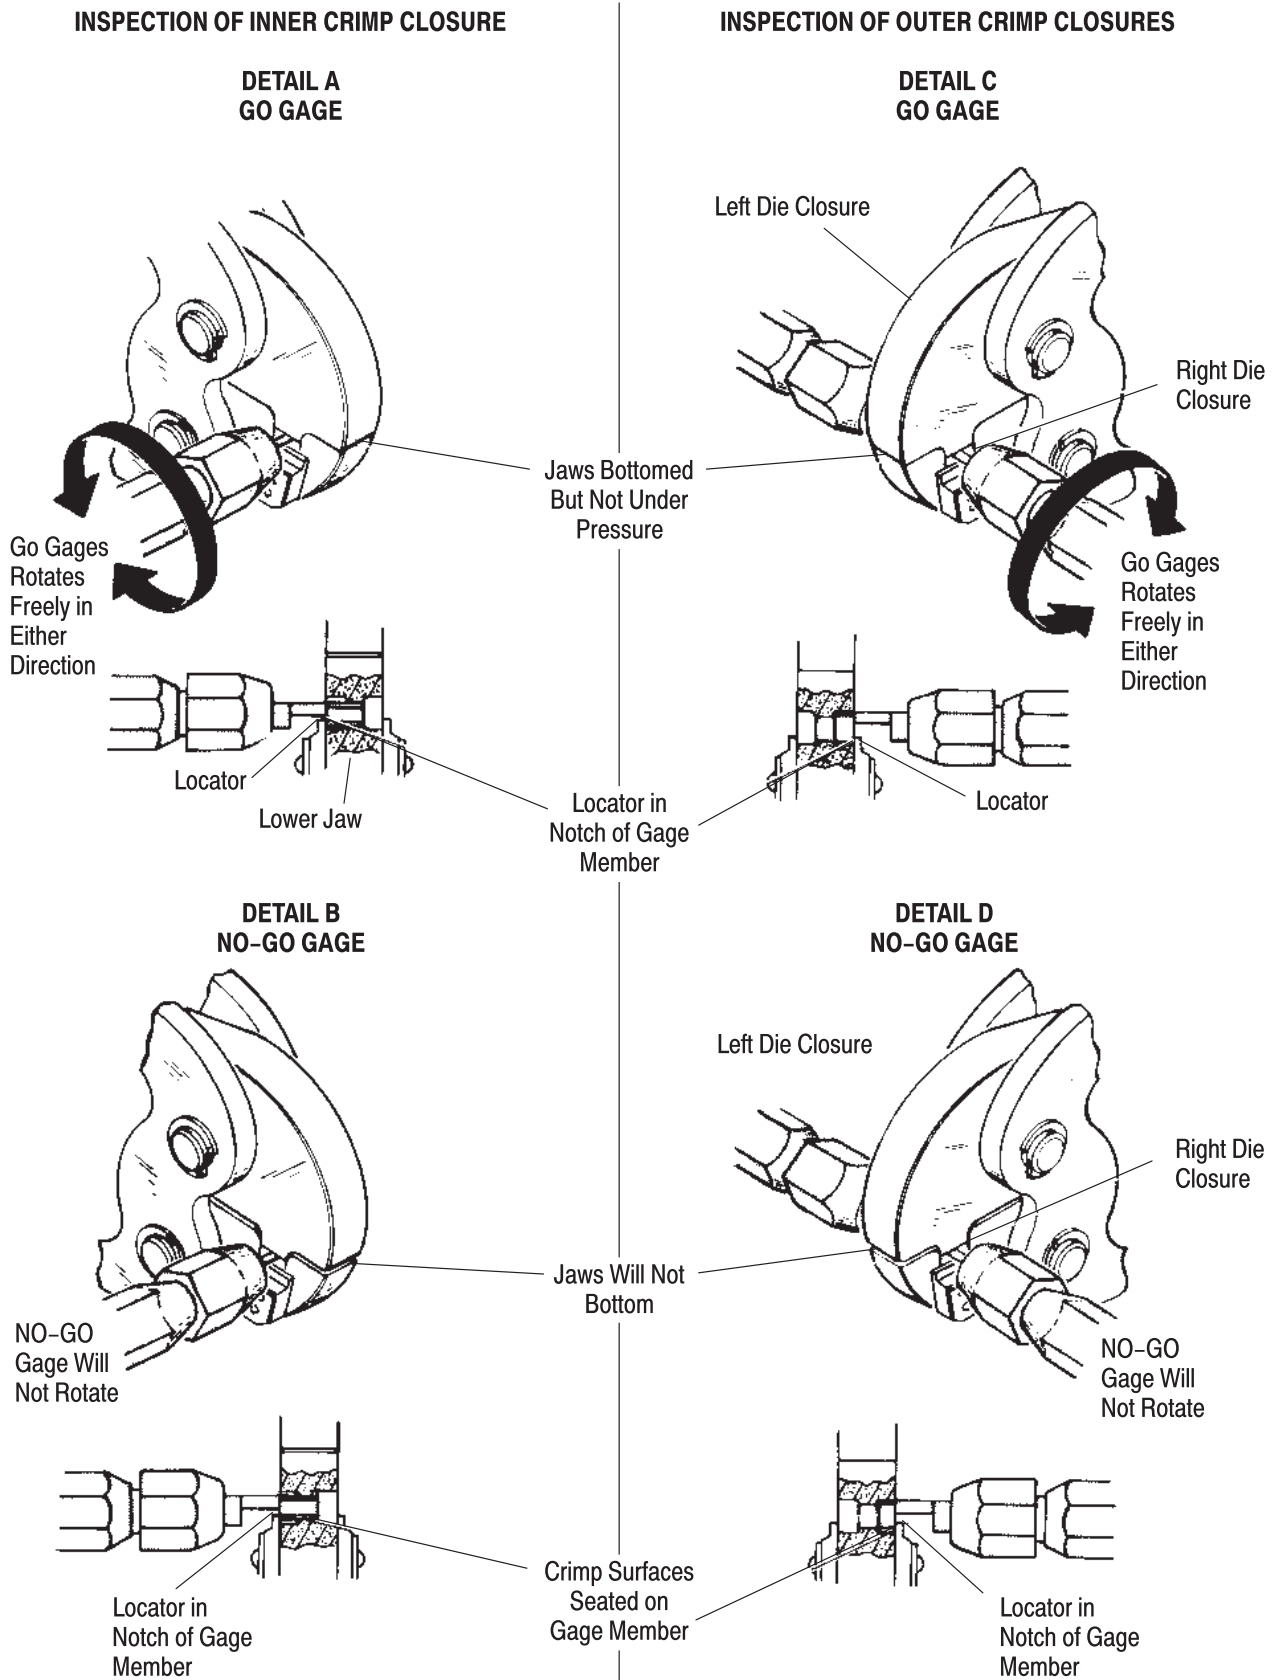

Figure 9
2. Select the proper GO gage. Position gage member in lower jaw inner crimp closure so that locator is in notch of gage member. See Figure 9, Detail A.
4. To meet the GO gage conditions, the plug gage must be able to be rotated freely in either direction as shown in Figure 9, Detail A.
5. Select the proper NO-GO gage. Position gage member in lower jaw inner crimp closure so that locator is in notch of gage member. See Figure 9, Detail B.
7. To meet the NO-GO gage conditions, jaw bottoming surfaces will NOT bottom, and NO-GO gage member will be held stationary (will not rotate) by the dies. See Figure 9, Detail B.
8. Inspect the right and left outer crimp closures in the same manner as steps 4.4.2 thru 4.4.7. See Figure 9, Details C and D.